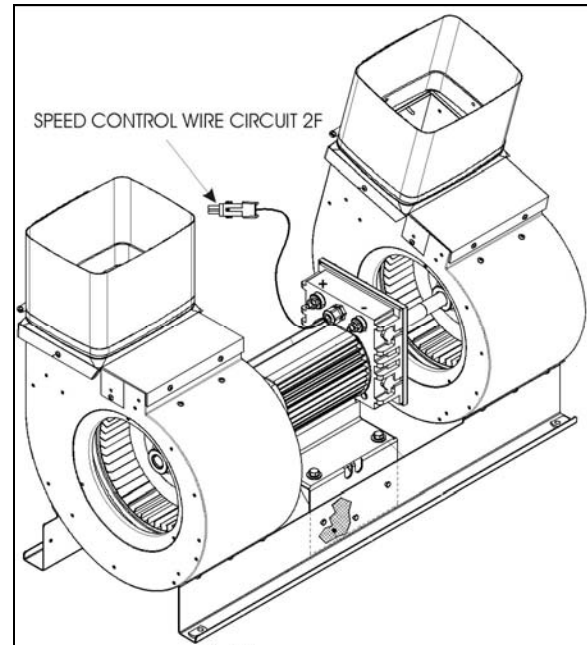

FIGURE 27: EVAPORATOR MOTOR ASSEMBLY
The brushless evaporator motor is installed in the evaporator compartment (L.H. side of vehicle) (figure 27). It is a 27.5 volt, 2HP (1,5 kW) motor which activates a double blower fan unit.
6. From under the vehicle, remove the eight bolts fixing the double blower fan unit base. Remove the complete unit from the evaporator compartment (figure 27).